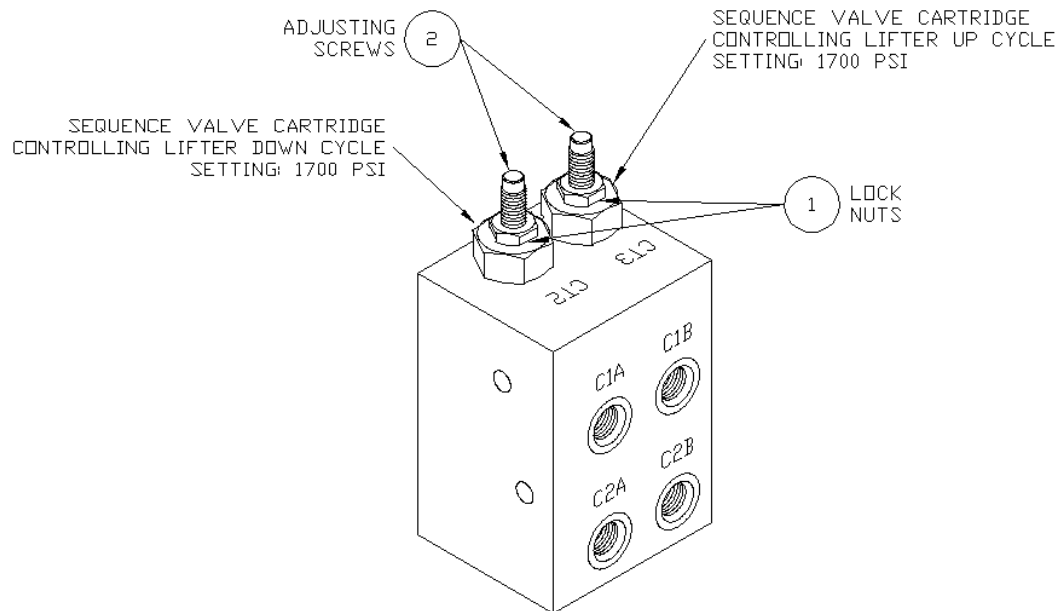

figure I-5
1. Loosen the lock nuts (1) (*figure I-5*) on the sequence valve cartridges and turn the adjustment screws (2) clockwise until they bottom out.
7. Tighten the lock nuts (1) on the sequence valve cartridges to secure the correct pressure settings.